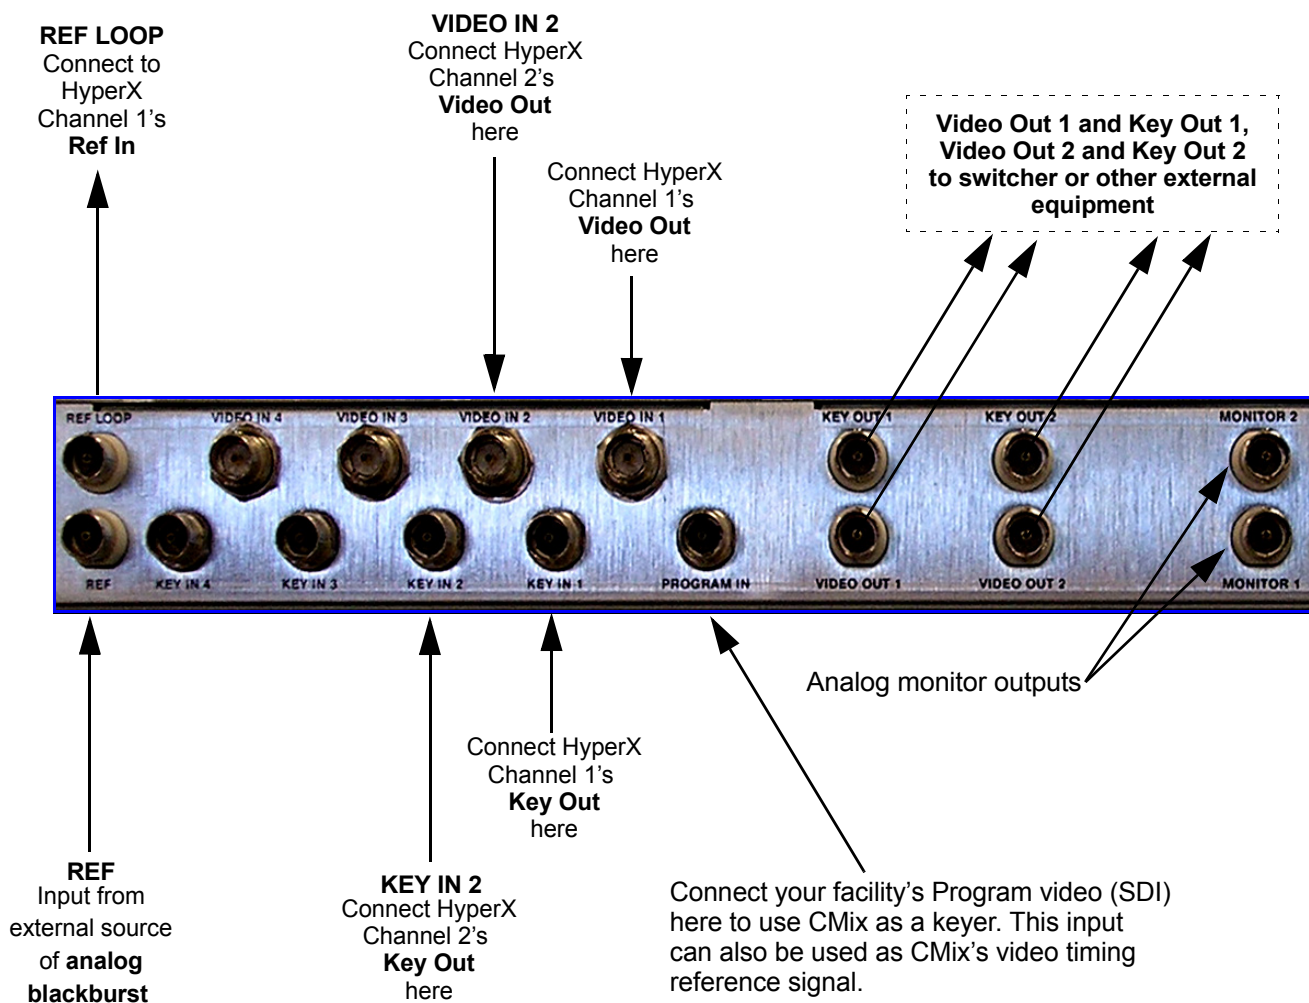
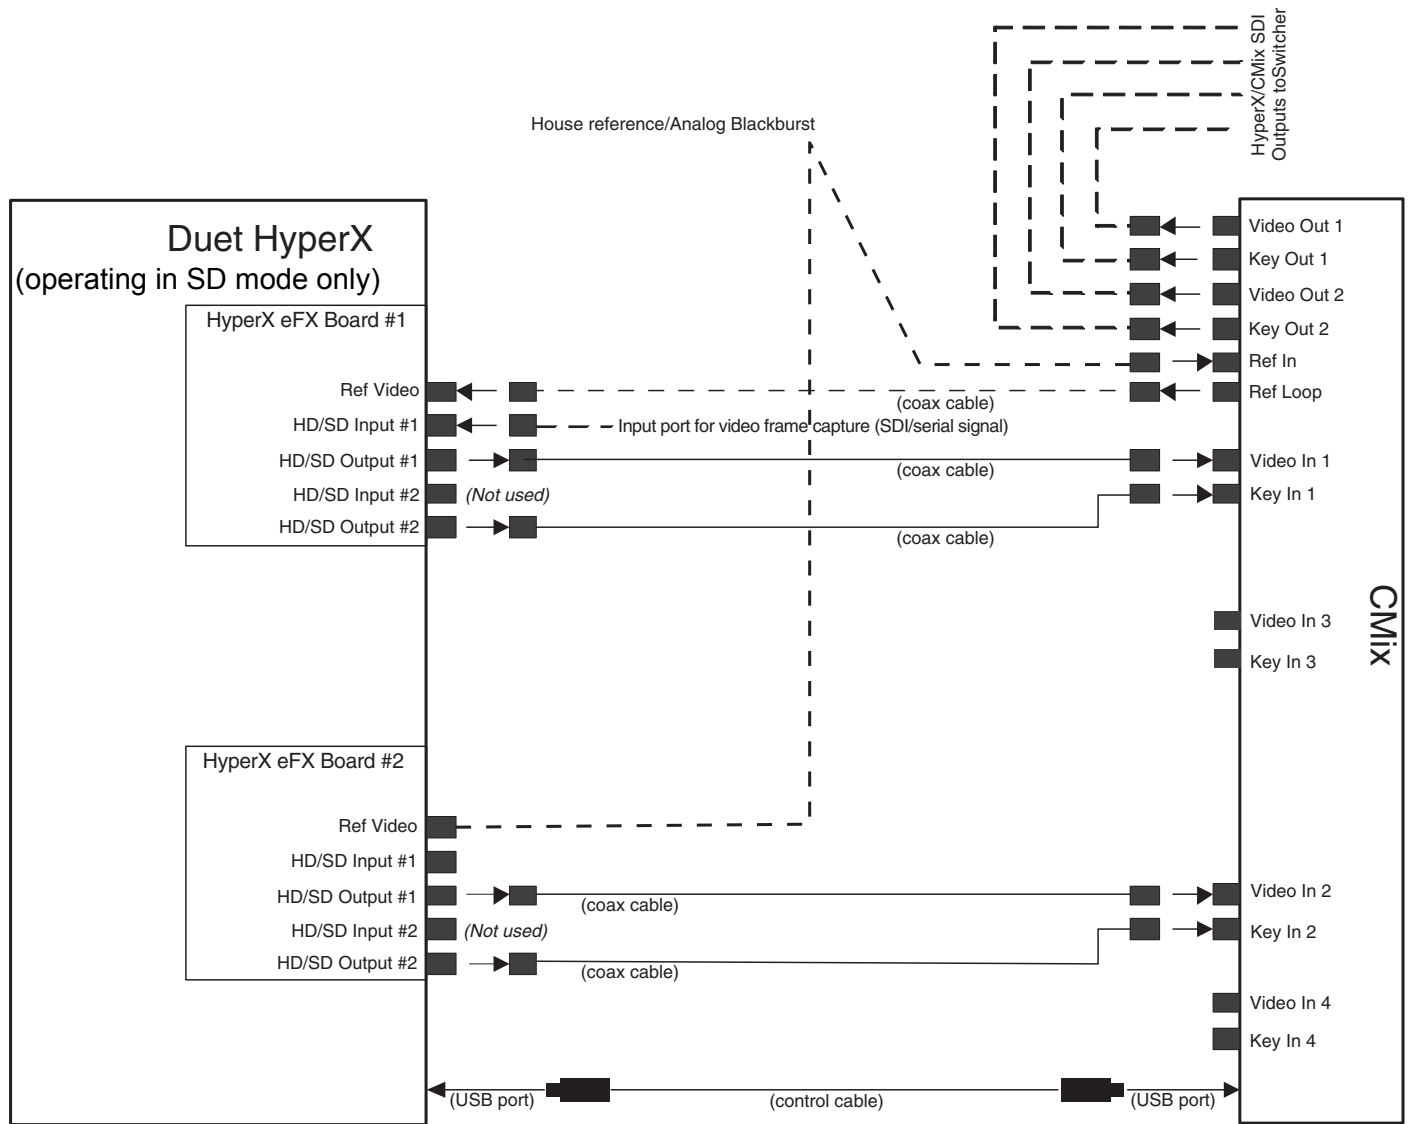

Figure 4-6. Chyron CMix rear panel with typical connections to a two-channel standard-definition HyperX system
Figure 4-7. Typical connections between a two-channel standard-definition HyperX and Chyron's CMix
**Figure 4-6** shows the rear panel of a CMix with suggested connections to a two channel HyperX system. **Figure 4-7** shows the signal paths in the same type of configuration. HyperX's outputs and key outputs are mixed and layered as desired, upstream of the production switcher, allowing the greatest possible flexibility in allocating your switcher's inputs and outputs.